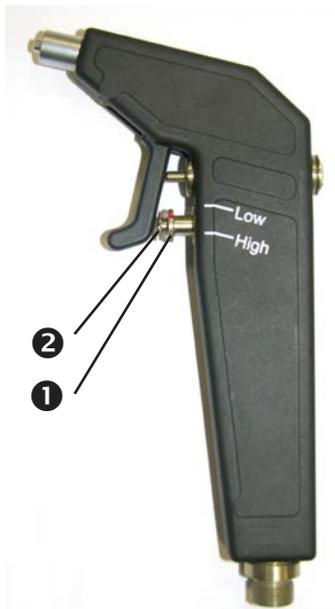

Fig. 6. Irrigation handle
- Prior to stimulation, turn the set screw (❶, Fig. 6) to the position “Low”.
For fine adjustment of the flow, turn the adjusting screw (❷, Fig. 6) in or out.
- Position of the set screw: High (see Fig. 6, page 13).
- Position of the set screw: Low (see Fig. 6, page 13).